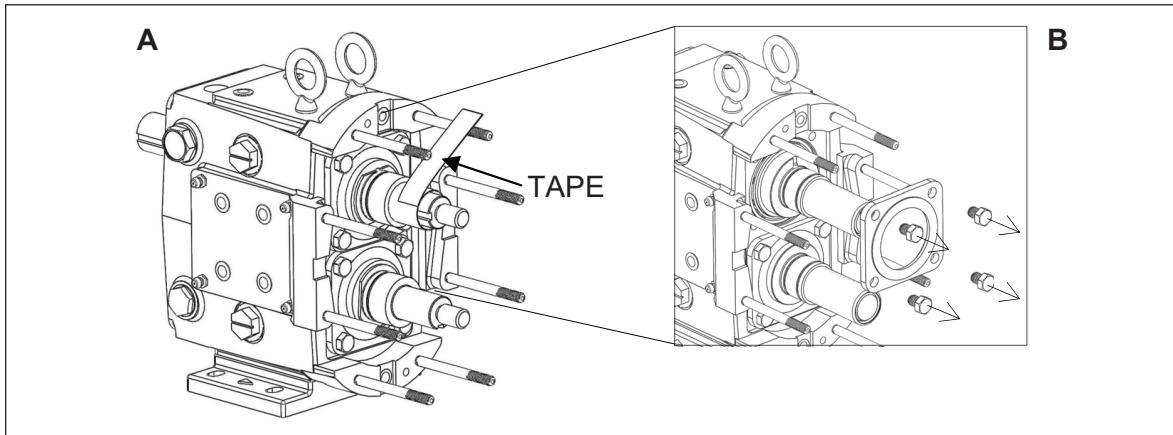

Figure 41. Tape Shafts and Remove Bearing Retainers
3. To prevent damage to the shafts, wrap the splines and rotor nut threads with tape (*Figure 41, A*). Any damage to the splines or threads may require the shaft to be replaced. Remove the cap screws holding the bearing retainer and splash plates in place and slide both off the shaft (*Figure 41, B*). If they are stuck, use a flat head screw driver as a wedge to pry them from the gear case or leave them in place and when the shafts are removed they will press off with the shafts. Using a straight edge, remove the liquid gasket used to seal bearing retainer to the gear case.